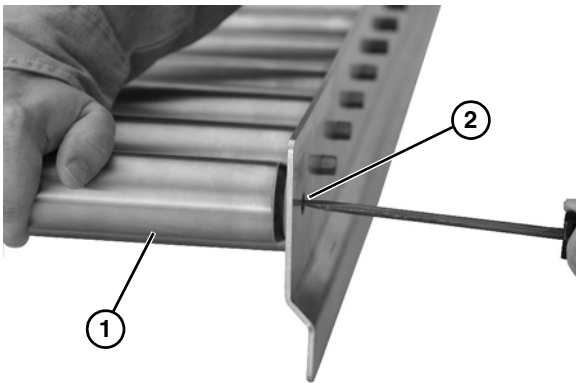

Figure 12
1. Remove the rollers (**Figure 12, item 1**) by pressing in the spring loaded hex shaft (**Figure 12, item 2**).